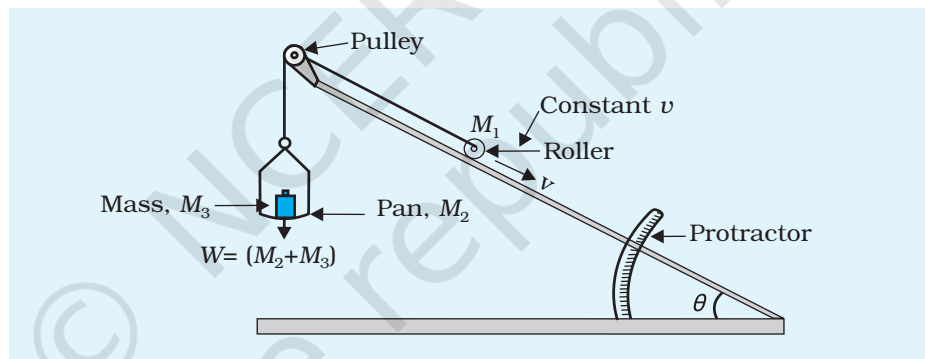

Fig. E 8.1: Experimental set up to find the downward force along an inclined plane
Consider the set up shown in Fig. E 8.1. Here a roller of mass M_1 has been placed on an inclined plane making an angle θ with the horizontal. An upward force, along the inclined plane, could be applied on the mass M_1 by adjusting the weights on the pan suspended with a string while its other end is attached to the mass through a pulley fixed at the top of the inclined plane. The force on the mass M_1 when it is moving with a constant velocity v will be
1. Arrange the inclined plane, roller and the masses in the pan as shown in Fig. E. 8.1. Ensure that the pulley is frictionless. Lubricate it using machine oil, if necessary.